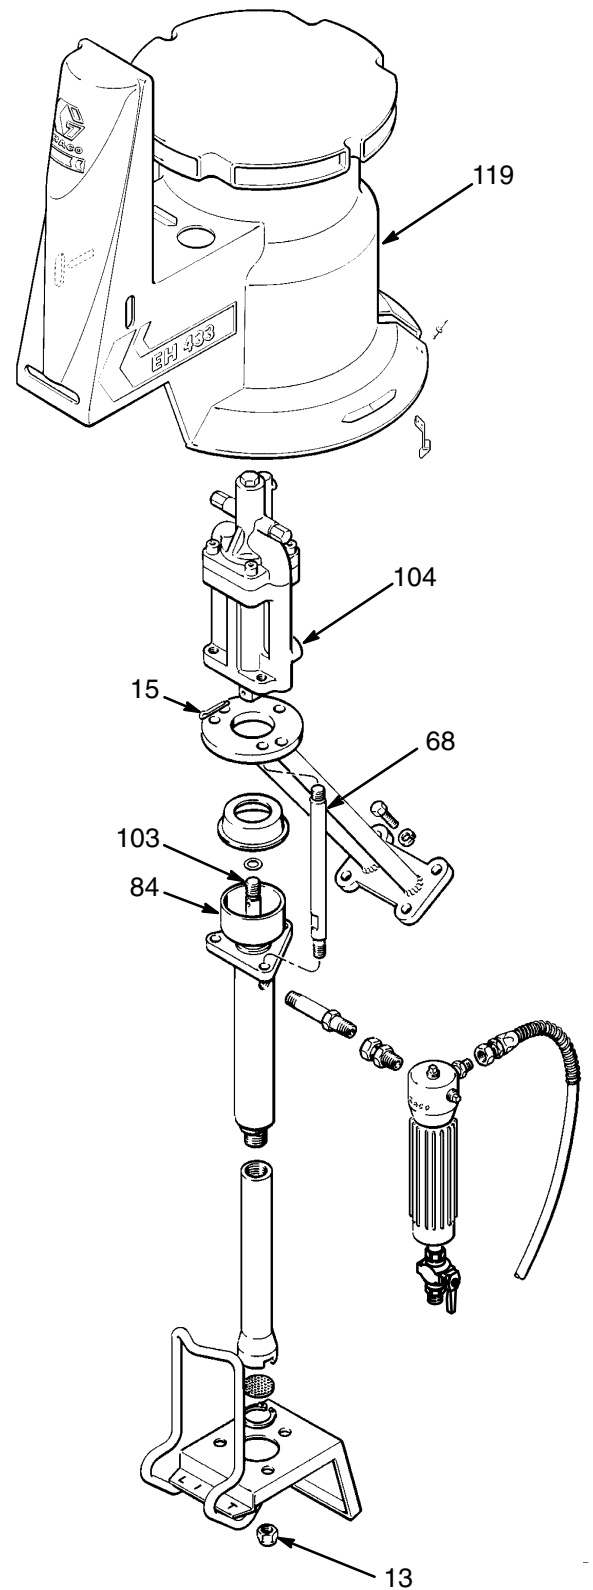

Fig 9
NOTE: Refer to Fig 9 for this procedure.
1. Remove the shield (119) and hydraulic motor (104).
2. Unscrew the three tie rod nuts (13) and pull the displacement pump (84) down off the rods. This will also pull the hydraulic motor piston down.
3. Remove the cotter pin (15) from the hydraulic motor piston rod. See Fig 9.
4. Rotate the displacement pump to unscrew the displacement rod (103) from the motor piston. Use a wrench on the flats of the displacement rod only.
5. Unscrew the three tie rods (68) and remove the hydraulic motor.